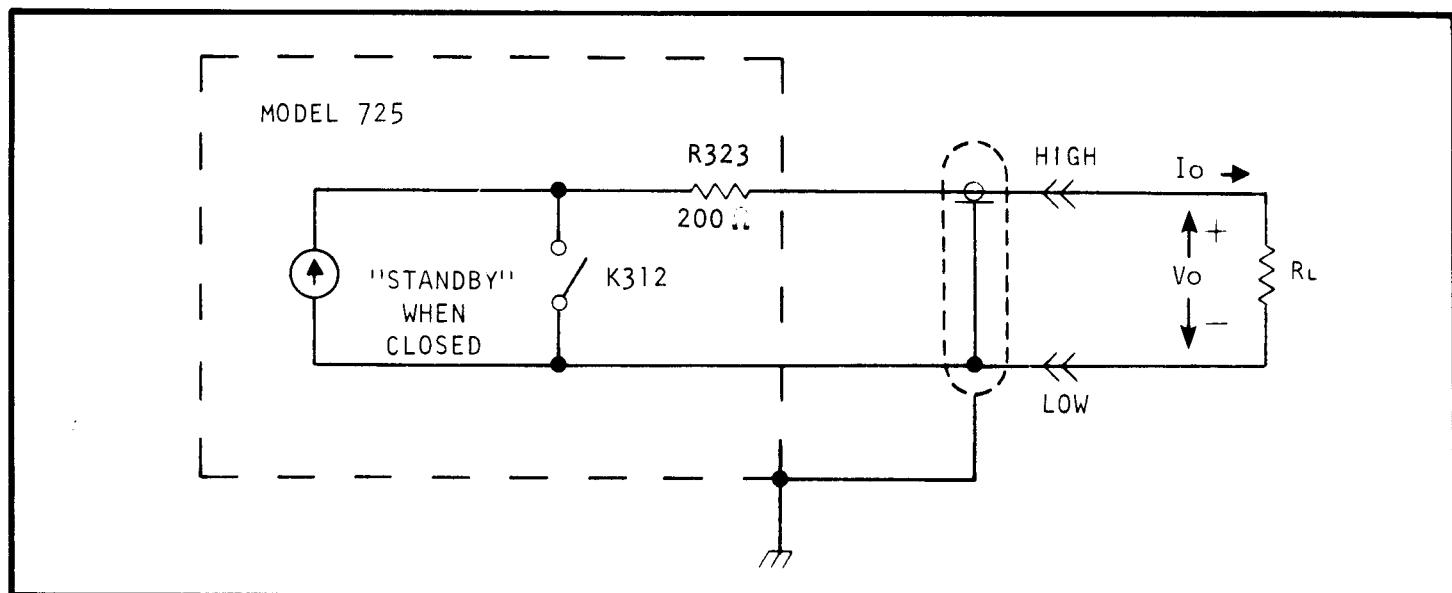

FIGURE 2-5. Resistive Load.
1. Current Source. The instrument can be used as a current source with a resistive load as shown in Figure 2-5. In this case, the Model 725 delivers the programmed current. The voltage developed across the load resistance R_L is $V_L = I_0 R_L$.
3-4. SWITCHING. The polarity relay switches the internal circuitry such that the polarity of the current at the "HIGH" terminal can be changed with respect to "LOW". This is accomplished by reversing the polarity of the voltage references since amplifier "A3" is a bipolar amplifier. The "STANDBY" position permits a change of polarity to be made without developing large transients. The "STANDBY" position connects the "HIGH" output to "LOW" through a 200 ohm shunt as shown in Figure 2-5. Since the selected current will be shunted through the relay contact resistance, up to 40 millivolts can be developed between the "HIGH" and "LOW" terminals with no load.